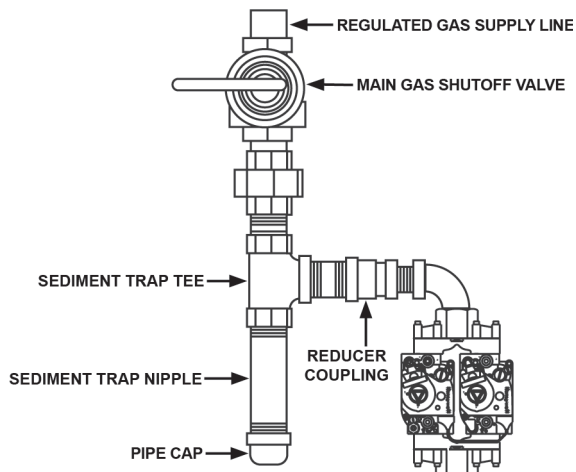

Figure 18. Gas Piping and Sediment Trap Installation
To trap any dirt or foreign material in the gas supply line, a sediment trap must be incorporated in the piping. See *Figure 18* (page 23). The sediment trap must be readily accessible and not subject to freezing conditions. Install in accordance with recommendations of serving gas suppliers. Refer to the current editions of the *National Fuel Gas Code or B149.1 Natural Gas and Propane* installation code.
1. For test pressures exceeding 1/2 psi (3.45 kPa) disconnect the water heater and its Main Gas Shutoff Valve from the gas supply piping system during testing. See **Figure 18**. The gas supply line must be capped when disconnected from the water heater.
1. Close the Main Gas Shutoff Valve. See *Figure 18* (page 23).
3. Close the Main Gas Shut Off Valve. See *Figure 18* (page 23).
4. Wait five (5) minutes for any residual gas to clear.